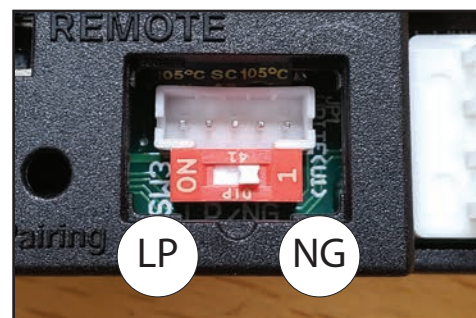

Figure 4: Fuel Setting Switch
***Note:** The switch on the module is label with a "1" and an "ON". The "1" corresponds to NG (default setting), and the "ON" corresponds to LP. See Figure 4.
5. Pairing Button: Used to program up to three (3) remote controls to the fireplace.